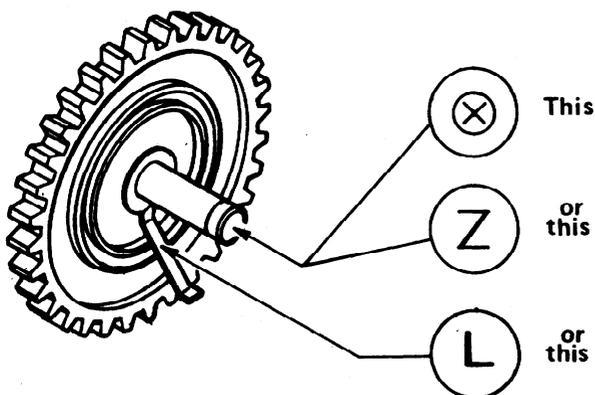

Figure 2. Location of Identification Mark(s) on Distributor Gear
5. Reassemble the distributor block with new serviceable gears. Serviceable gears are identified by the presence of the letter "z" or the letters "x" and "o" together, laser etched on the retaining ring end of the gear axle, or the letter "L" stamped on the electrode (see figure 2).